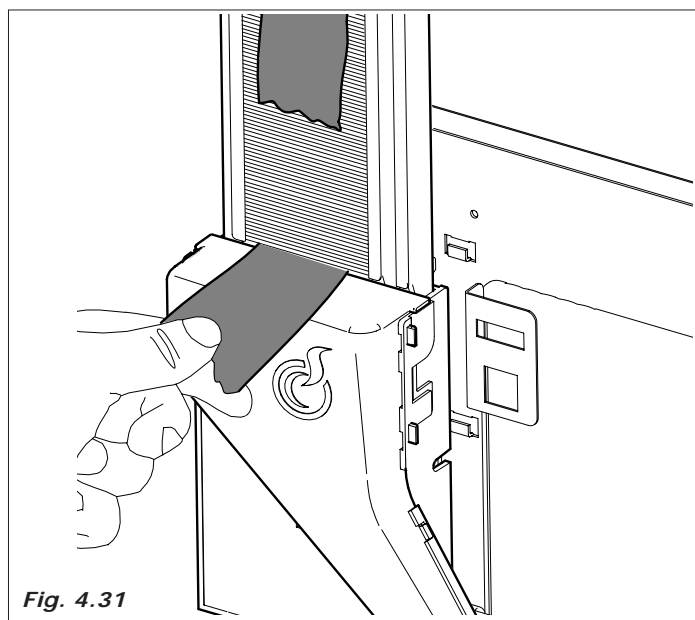

Fig. 4.31
- insert the spoons with their pack wrapping in the column and when they are positioned on the bottom cut and remove the wrapping (Fig. 4.31)